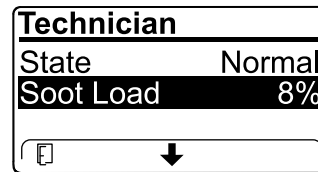

Figure 57
- View the soot load which is measured as the percentage of soot in the DPF (Figure 57); refer to the soot-load table.